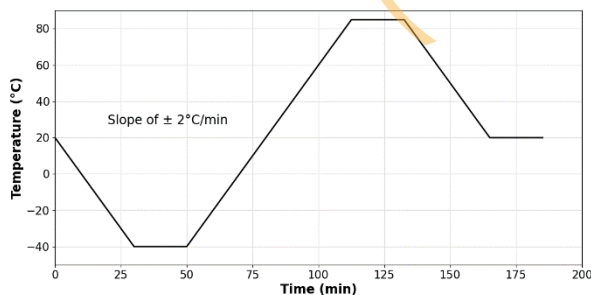

Figure 25: Recommended Temperature profile for calibration
2. Place the sensor on a rate table in a thermal chamber and implement temperature profile according to Figure 25